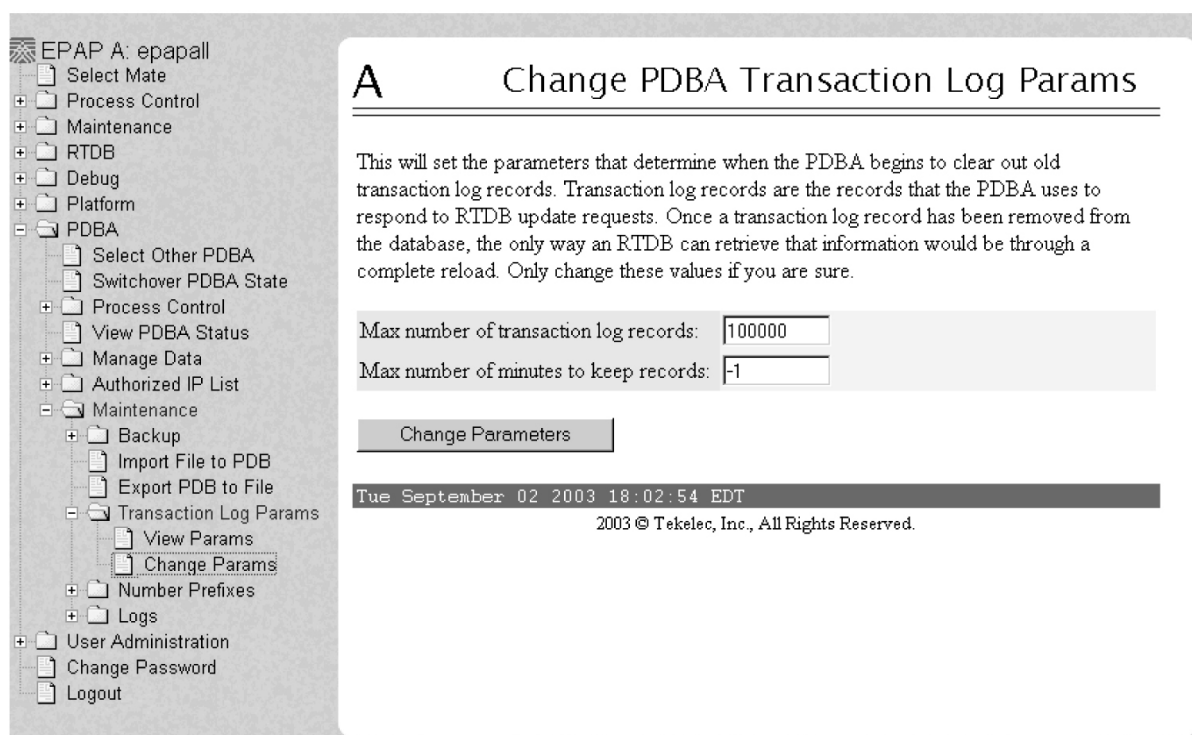

Figure 36: Changing Transaction Log Parameters
10. If you wish to increase the size of the transaction logs, select **PDBA>Maintenance>Transaction Log Params>Change Params** as shown in Figure 36: Changing Transaction Log Parameters.